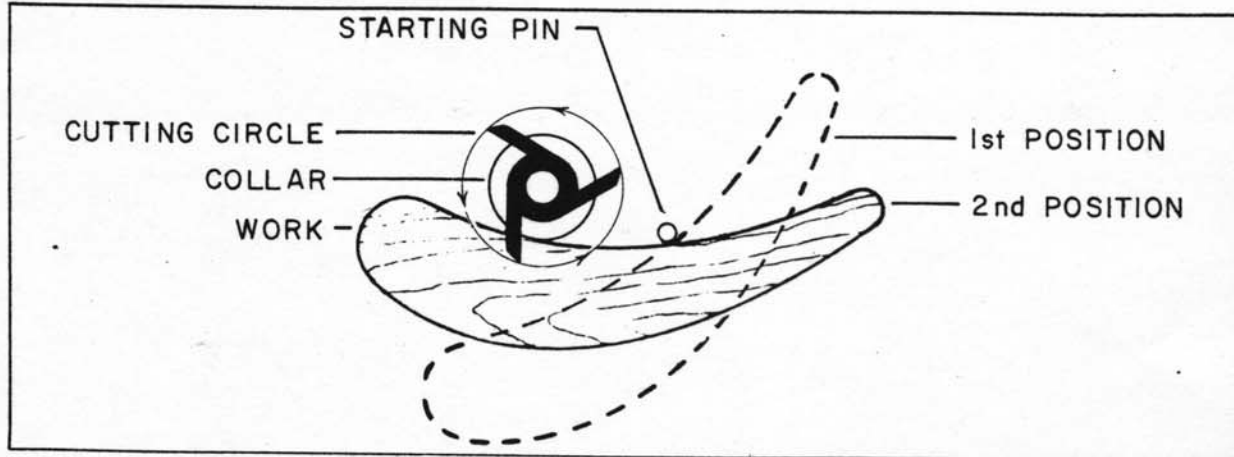

Fig. 19
2. The work should be placed in the first position using the guide pin as a support, as shown in Fig. 19. Then swing the work into the cutter as shown in the second position. The work will now be supported by the collar and starting pin as shown in Fig. 19.